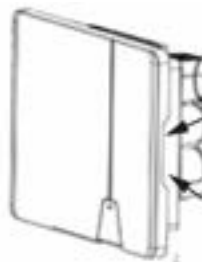

Fig. 3.2: Lifting position (right side)
- 1 Lift the device using the grip recesses (see Fig. 3.2). Observe the centre of gravity!